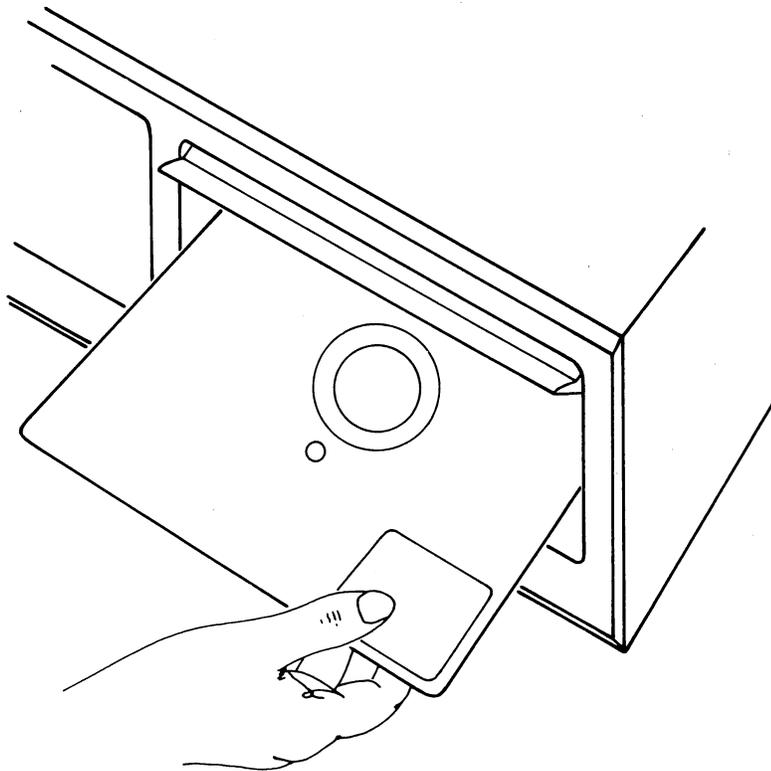

Fig. 5—Inserting the Diskette
- (b) Grasp the diskette between the thumb and index finger. The label should be face up and toward the operator (Figure 5).